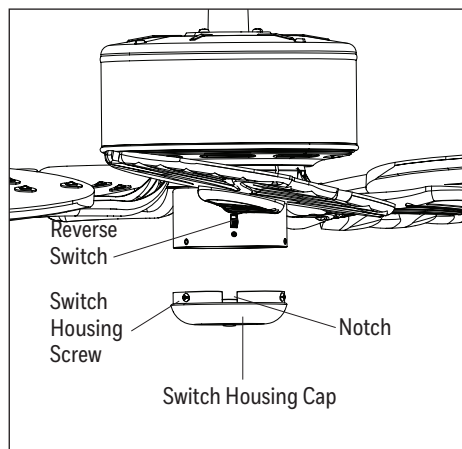

Figure 6.2
2. Remove the three switch housing screws from the switch housing cap. Attach the switch housing cap to the switch housing using the switch housing screws. **Note:** Align the notch in the switch housing cap with the reverse switch on the switch housing (Figure 6.2).